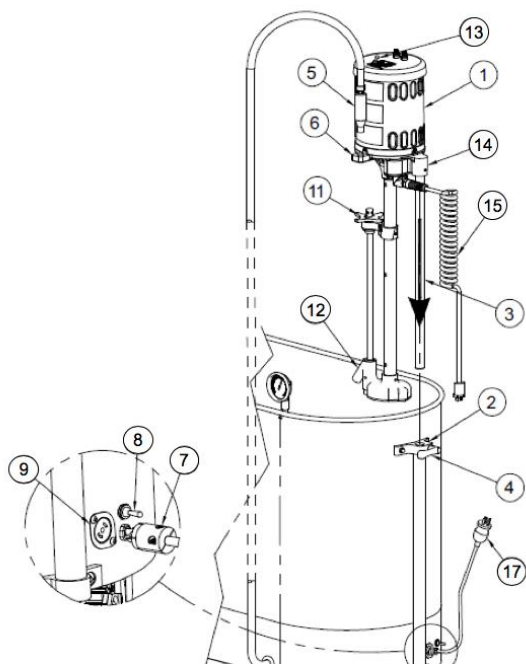
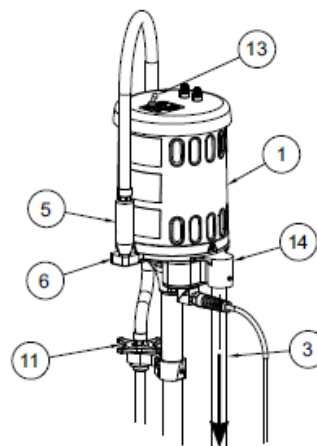

Figure 4: Detail of –SL-SDP Whirlpools
Figure 5: Detail of –SL model without -SDP
2. For –SL models (Figure 5) and -SL-SDP models (Figure 4): Place discharge nozzle (5) into storage socket (6). For –SL-SDP models only: water will flow through hose if discharge nozzle (5) is lower than water level.
3. Turn the pressure control valve handle (11) fully clockwise, then fully counterclockwise to completely lubricate the plunger assembly.
4. For –SL–SDP models only (Figure 4): Insert electrical cord twist-lock plug (7) into socket (9) and turn clockwise a quarter turn to lock in place.
5. Turn the turbine power switch (13) off.
- a. Place discharge nozzle (5) into floor drain or sink.
- b. Turn the drain pump switch (18, Figure 4) on. When water stops discharging from the nozzle, turn the drain pump switch off.
- c. Some residual water will remain in the drain pump. To remove this water, lower the discharge nozzle (5) to the floor and clean with a towel or sponge.
- e. Place discharge nozzle (5) into socket (6). Note: water will flow through hose if discharge nozzle (5) is lower than water level.